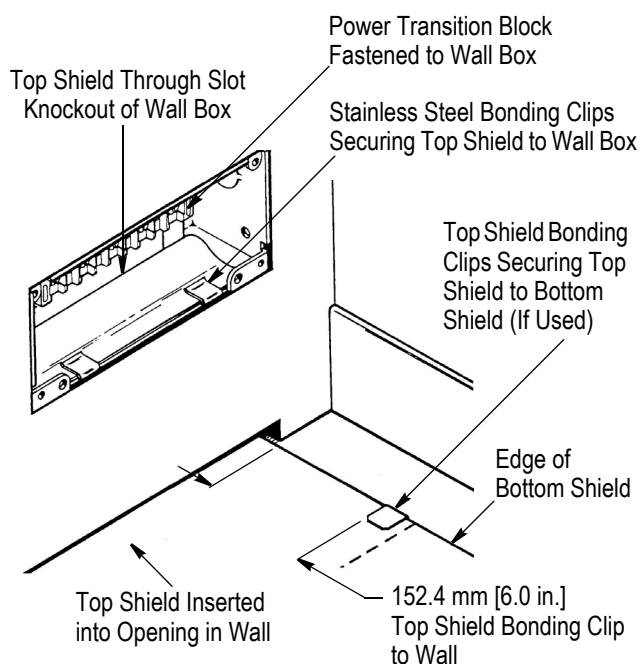

Figure 6
5. Insert the top shield into the opening in the wall and through the slot knockout of the wall box. See Figure 6.
6. Using the two stainless steel bonding clips, secure the top shield to the wall box. See Figure 6.
8. If bottom shield is used, use Top Shield Bonding Clip 553534-1 (available separately) to connect the top and bottom shields together at the floor. Make sure to place the clips approximately 152.4 mm [6.0 in.] from the wall. See Figure 6.